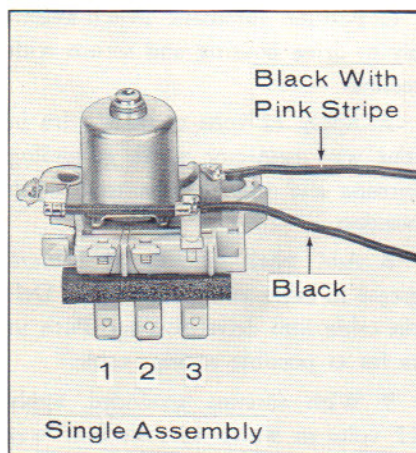
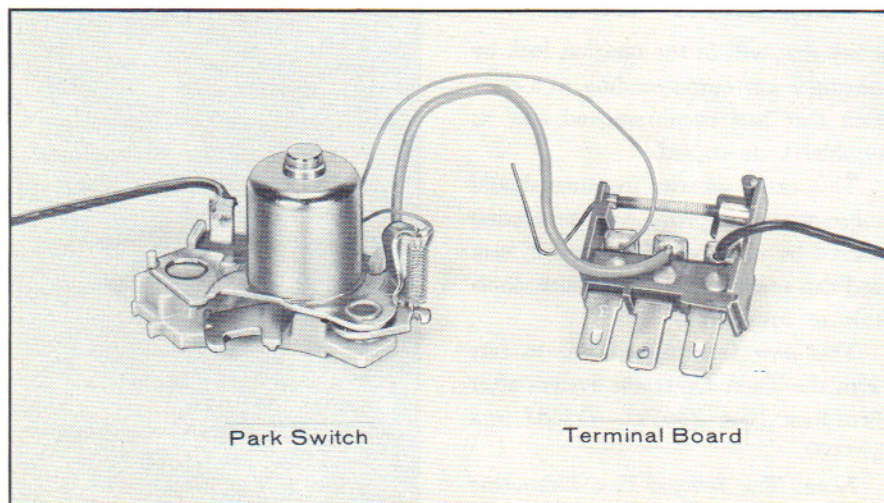

Fig. 3
Fig. 4
THE windshield wiper motor assembly utilizes a combined park switch and terminal board assembly, Fig. 3, on later 1973 cars. Previously, the park switch and terminal board have been separate units, Fig. 4.
1. Resolder leads to park switch and terminal board assembly as required, Fig. 3.